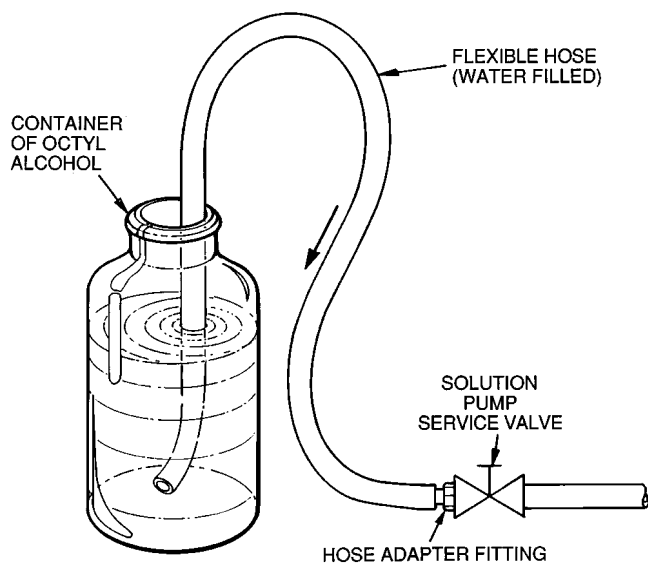

Fig. 35 — Adding or Removing Liquids
1. Fill a length of flexible tubing with water and connect one end to the hose adapter. Place the free end in a container of water. Be sure end is submerged (Fig. 35).
2. Fill a length of flexible tubing with water and connect one end to the high-temperature generator drain valve (see Fig. 35). Insert the other end in a container of octyl alcohol. Open the service valve to allow alcohol to be drawn into the machine. *Close valve before air can be drawn into the hose.*